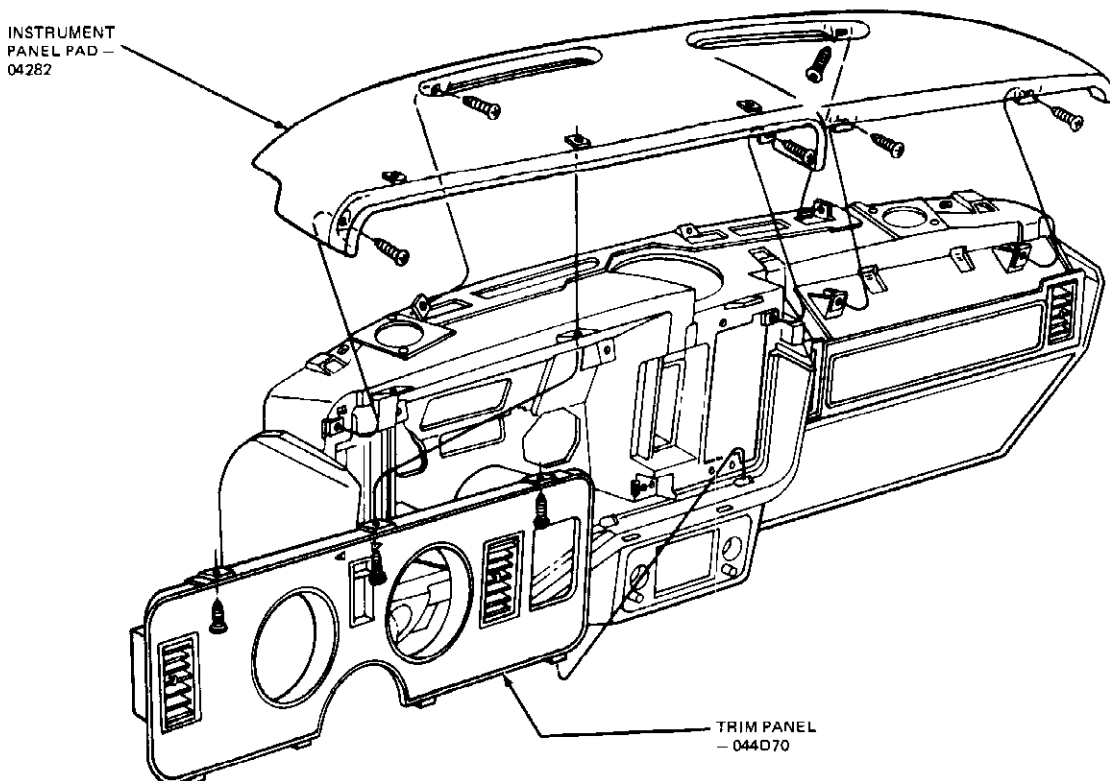

FIG. 36 Instrument Panel Pad Installation
1. Remove three screws attaching the instrument cluster trim panel to the instrument panel pad (Fig. 36).
2. Remove one screw attaching the pad to the instrument panel at each defroster opening (Fig. 36).